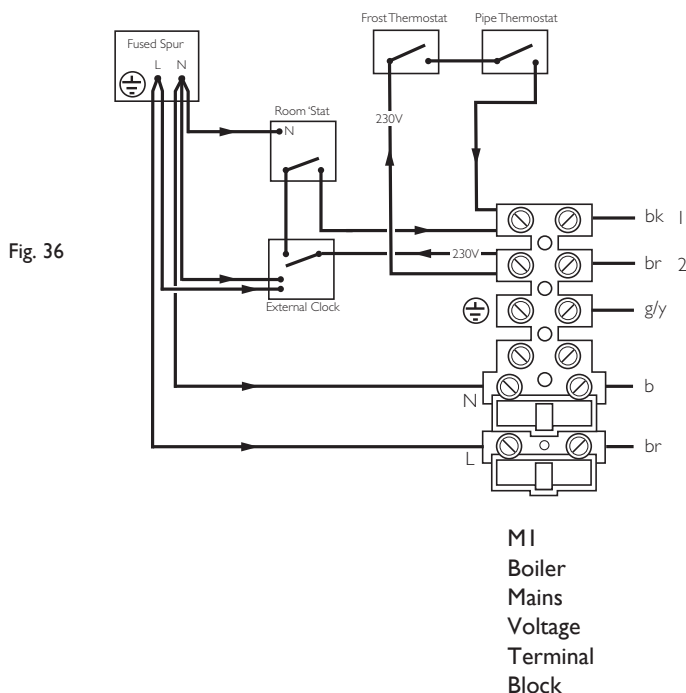

Fig. 36
6. When fitting the boiler to an existing installation it may be desired to retain the external control system already in place. In such circumstances the wiring should be as shown in Fig. 36 for example, and the i-THINK controller set to 'On' heating operation with no timed 'off' periods (as supplied). **NO LOW VOLTAGE EXTERNAL CONTROLS (except the Outdoor Sensor) CAN BE FITTED IN THIS INSTANCE!**
IMPORTANT: Any thermostat shown in Fig. 36 **MUST** be suitable for 230V switching.
7. The 230V supply at terminal 2 must be connected to the control system. The switched output from the control system must be connected to terminal 1. If the room thermostat being used incorporates an anticipator it **MUST** be wired as shown in Fig. 36.